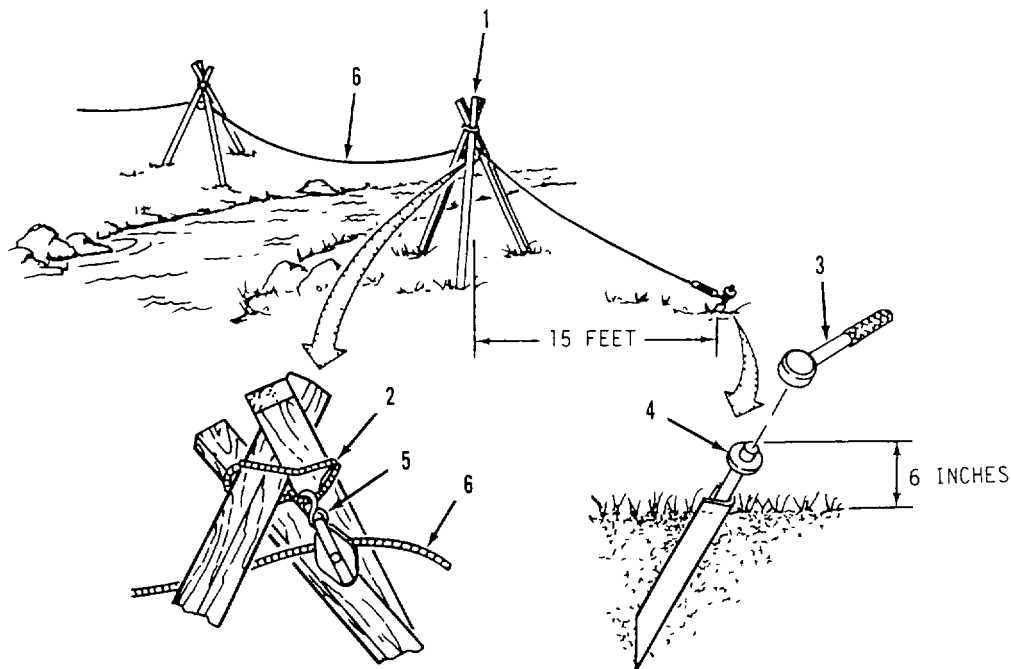

Figure 2-24. Tripod Assembly
*Assemble Tripods* Refer to figure 2-24.
- (1) Using available materials and manila rope (2) from suspension kit, construct two tripods (1), one on each side of obstacle to be crossed. Tripods must be strong enough to support filled hoseline and tall enough to keep hose above rising water and obstructions. Install additional supports on tripods as required.
- (2) Using driving head (3) and hammer, drive two anchor stakes (4) into ground about 15 feet from each tripod (1). Anchors must be in line with, and leaning away from, both tripods as shown. Anchors should extend about 6-inches above ground when fully installed.
- (3) Hang one tackle block (5) beneath each tripod (1).
- (4) Thread end of wire rope (6) through pulley on tackle block (5) on near side of obstruction.
- (5) Pull wire rope (6) across obstruction and through tackle block (5) on far side of obstruction.